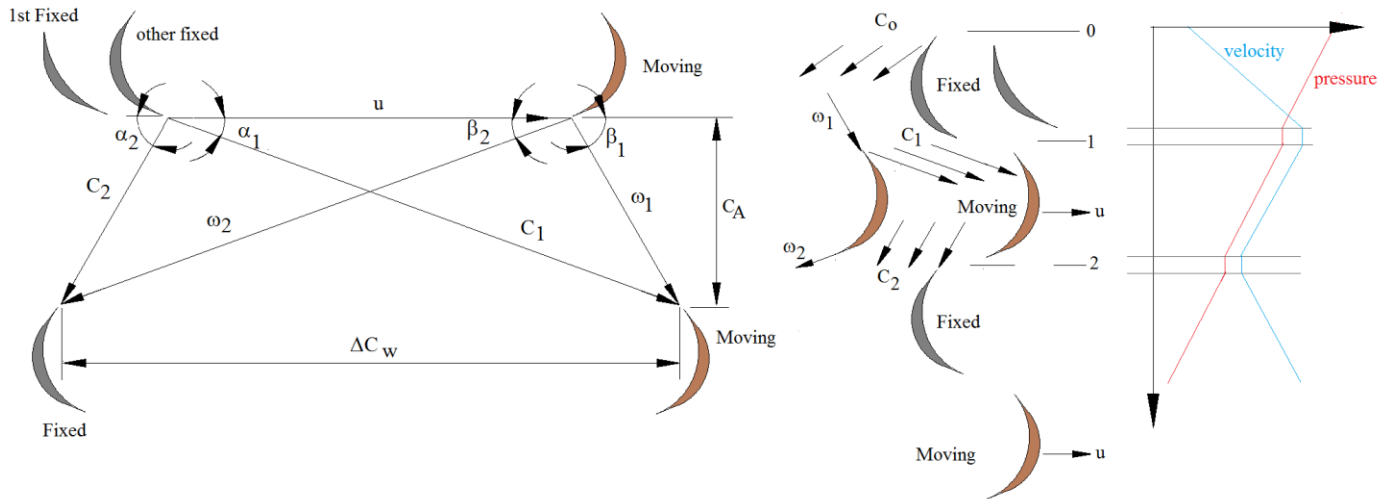

Figure 19
This design is named after **Charles Parsons**. It follows that the pressure drop over each stage is the same. Figure 19 shows the layout of such a turbine and the vector diagram.
It can be seen from the vector diagram (figure 19) that  $\alpha_1 = \beta_2$ ,  $\alpha_2 = \beta_1$ ,  $C_1 = \omega_2$  and  $C_2 = \omega_1$  and it follows that  $C_2$  is the same as the velocity exiting the previous fixed stage  $C_0$ . This means that the overall change in kinetic energy for the two rows from point (0) to point (2) is zero.